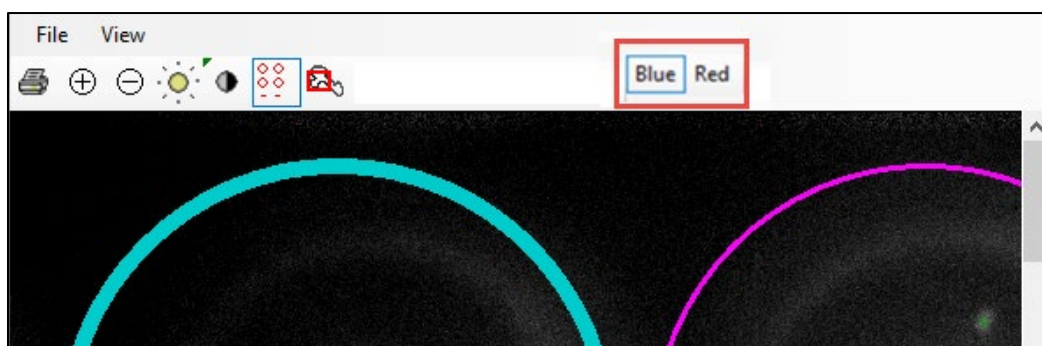

Figure 84. The *Image Viewer* window during auto-tune.
1. Review an image by clicking on a row in the table. Select which color to display by clicking on the channel color buttons in the *Image Viewer* toolbar. Figure 84 uses a red square to highlight where to find the channel color buttons, while 'Blue' is the selected value.